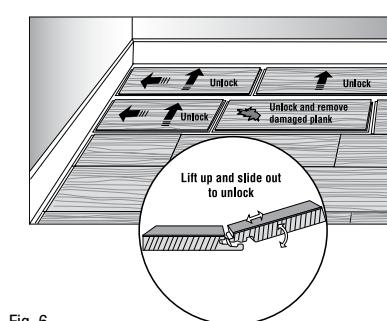

Fig. 6
- Remove the boards by unlocking them (Fig. 6). Number the boards, on the back, so they may be repositioned later. You can work in either direction, carefully working back to the damaged piece.